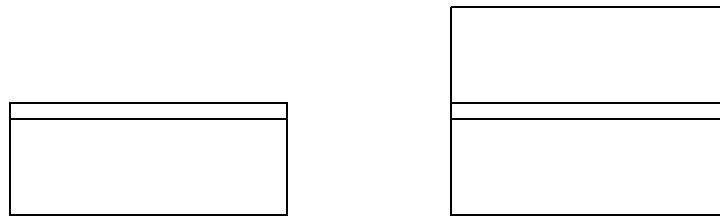

Figure 39
7. Save the family, and use Preview Visibility or reload it into the project to test it (see Figure 39).